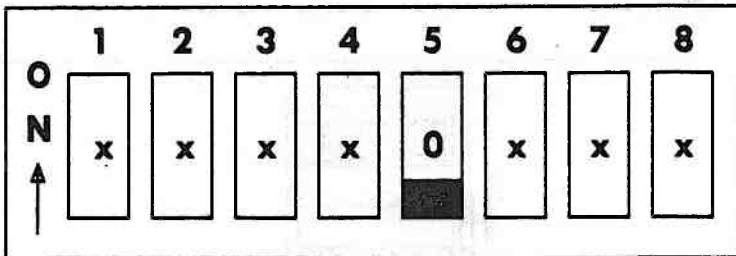

Figure 3-22. Setting DIPSW-0 for Presence of 8087 NDP
12. Set DIP switch 5 as shown in Figure 3-22.